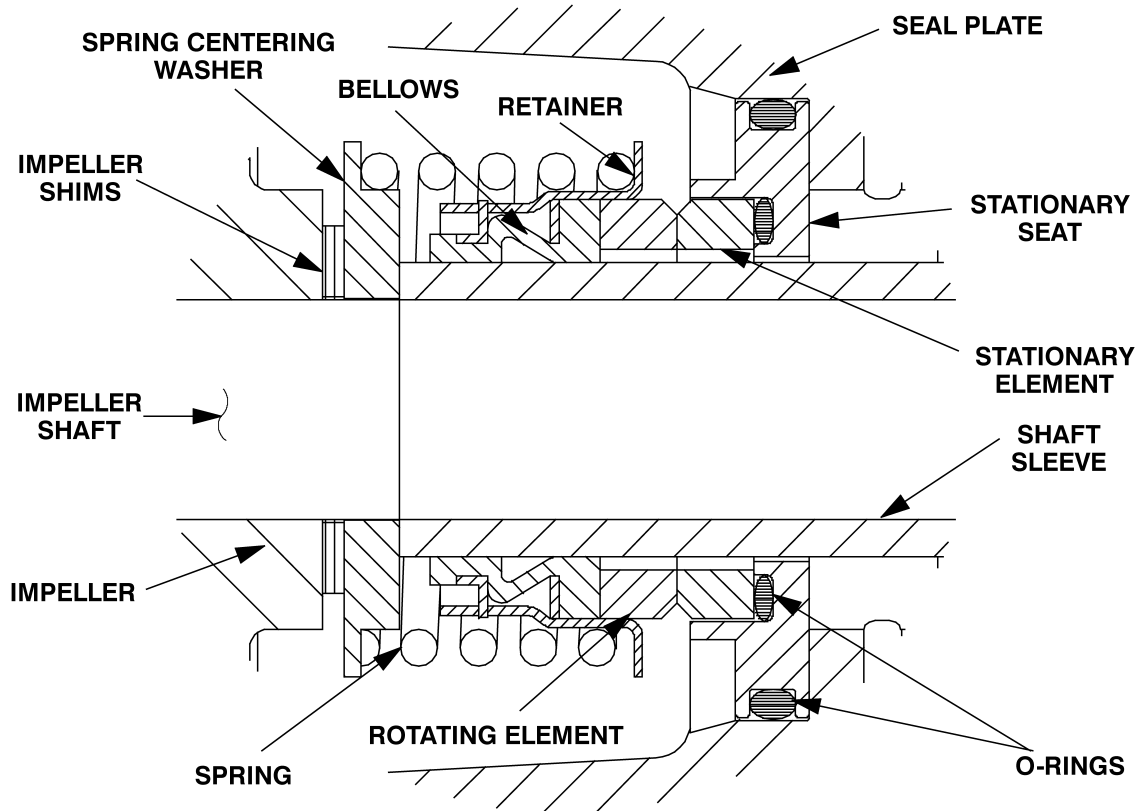

Figure E-3. Seal Assembly
To ease installation of the seal, lubricate the O-rings and shaft sleeve (4) with water or a very **small** amount of oil, and apply a drop of light lubricating oil on the finished faces. Assemble the seal as follows, (see Figure E-3).